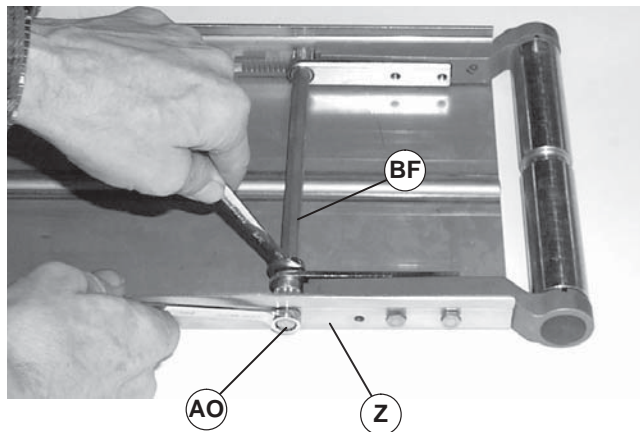

Figure 31
1. While holding hex pinion (Figure 31, item BF) with a 3/8" open-end wrench, loosen M6 hex head cap screw (AO).